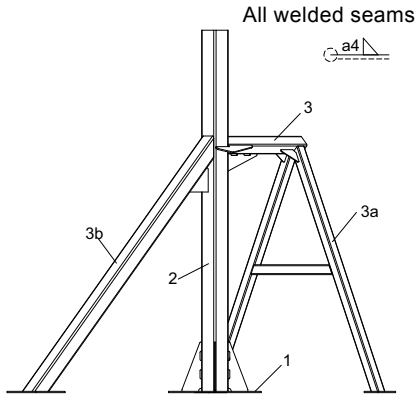

Fig. 16 SFG.xx.102, profile and support legs, back view
Place the depth blocker (3), the back support leg (3b) and the front support legs (3a) in the right position, and weld them on the column profile (2). See position numbers in fig. 16.
7. Shorten the column profile (2 in fig. 16 and fig. 17) to the correct length to match the position of insulator (C, fig. 19) at the top fixation bracket.
11. Drill the holes for the anchor bolts for the bottom fixation plates in the bottom of the tank, and insert the bolts. See fig. 16.